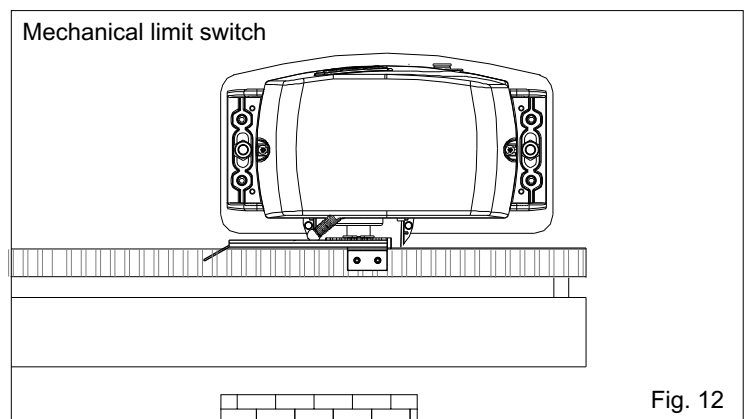
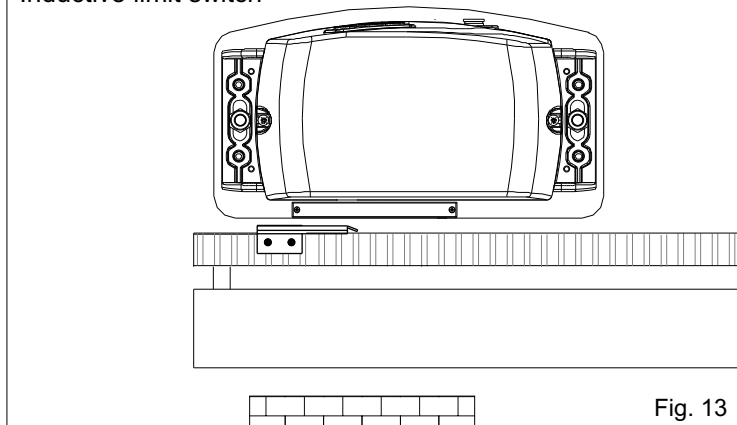

Fig. 12
Fig. 13
- Place the small plate on the gear rack so that the limit switch is (small lever in case of mechanical limit switch (Fig. 12); small pointers placed on the upper part in case of inductive limit switch (Fig. 13)) in correspondence of point X which is placed 50 mm from the folded side of the small plate (Fig. 14) and fix it with the delivered screws (Fig. 15).